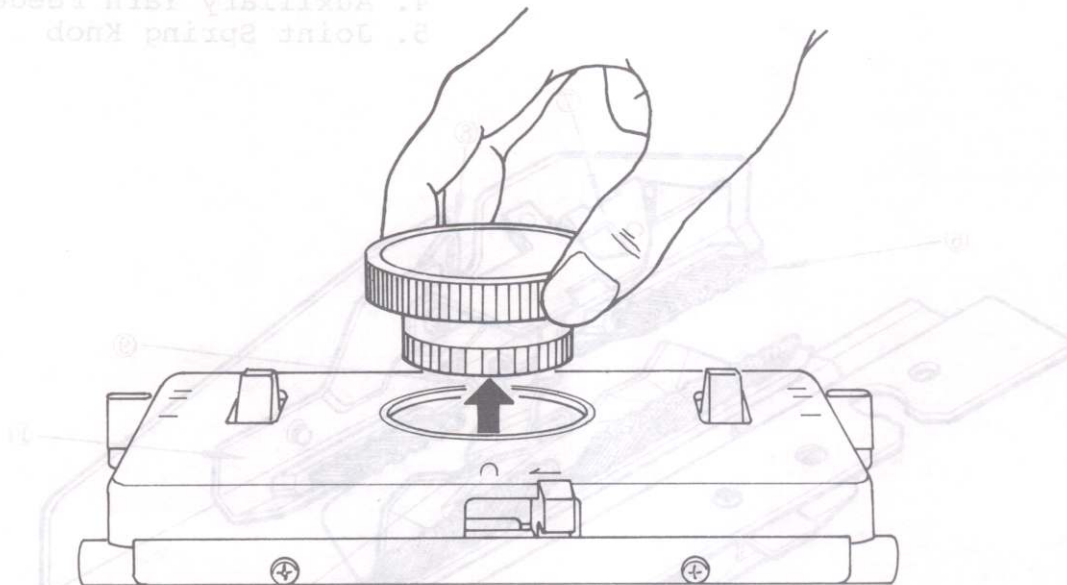

Fig. 7
Remains shown in Fig. 7, below.
2. Remove the Stitch Dial as shown in Fig. 7, below.